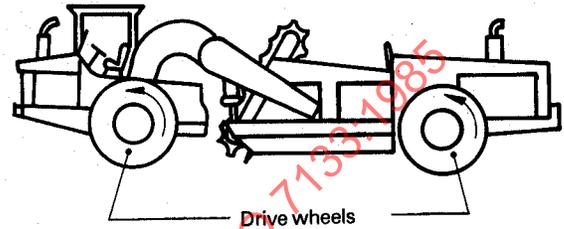

Figure 10 — All wheel drive
5.1.5.2 All wheel drive (figure 10)